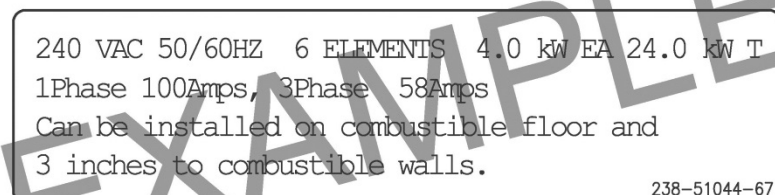

Figure 14. Adhesive Backed Label Overlay
2. Locate the adhesive backed label (see Figure 14) that is provided inside the kit. The label will be marked with the new electrical data that is accurate for the conversion just executed.